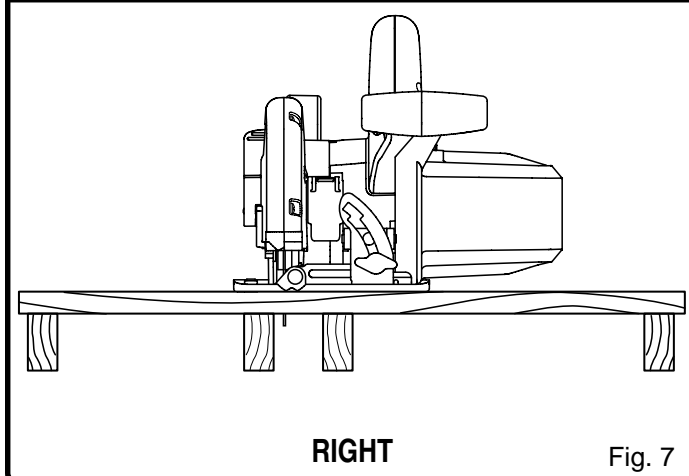

Fig. 7
- To avoid pinching the blade, support the work properly before beginning a cut. The right way to support large pieces of work are shown in Figure 7.